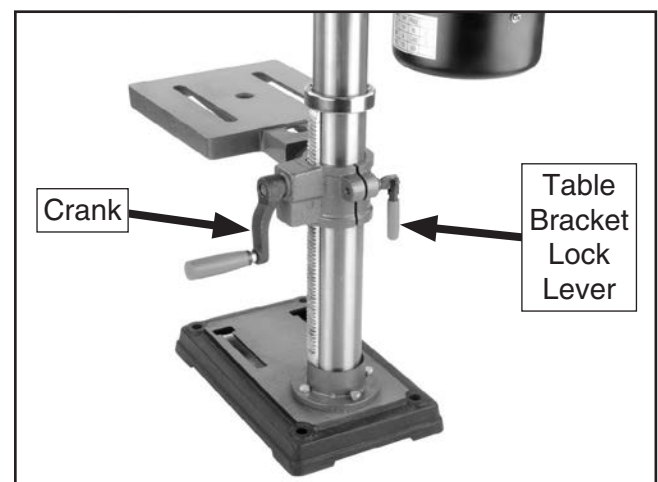

Figure 28. Table height controls (G7945).
1. Loosen the table bracket lock lever (see **Figure 28**). Turn the table crank to raise or lower the table.